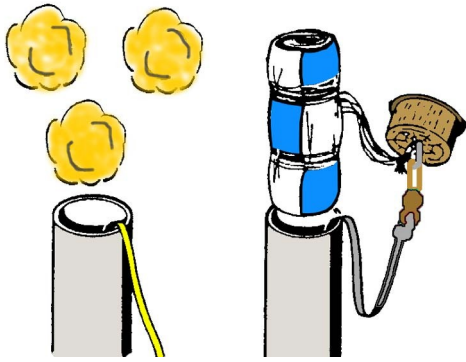

Figure 12
- **Step 28** As shown in Fig. 12, insert about 2” of your preferred flameproof recovery material into the top of the body tube, pushing with a pencil or a wood dowel until it is just above the motor mount. We prefer shredded cellulose insulation over the more traditional wadding sheets. **DO NOT PACK THIS MATERIAL TIGHTLY!** This material has to blow out with the parachute and the shock chord to ensure complete deployment. It is meant to provide a protective gas seal between the motor and the parachute. If it is too tight in the tube, you will suffer recovery failure and likely a damaged model.